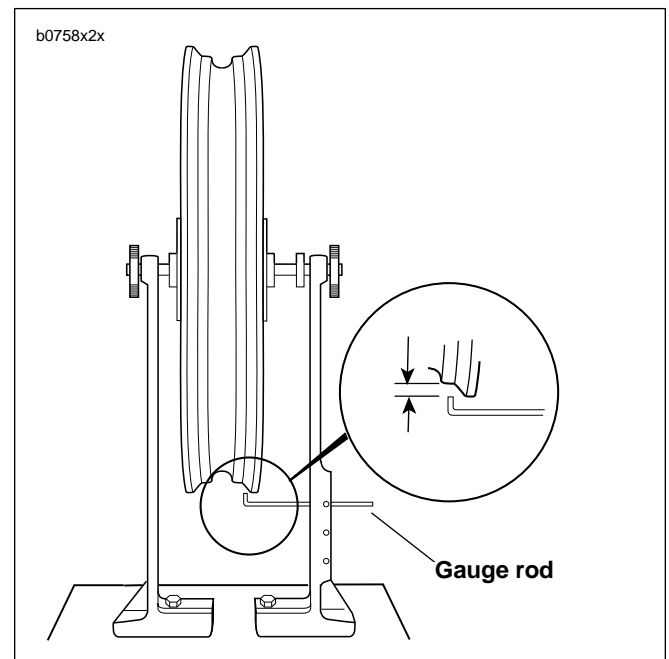

Figure 2-29. Checking Cast Rim Radial Runout Using Wheel Truing and Balancing Stand (HD-99500-80)
1. See Figure 2-29. Install truing arbor in wheel hub and place wheel in WHEEL TRUING AND BALANCING STAND (Part No. HD-99500-80).